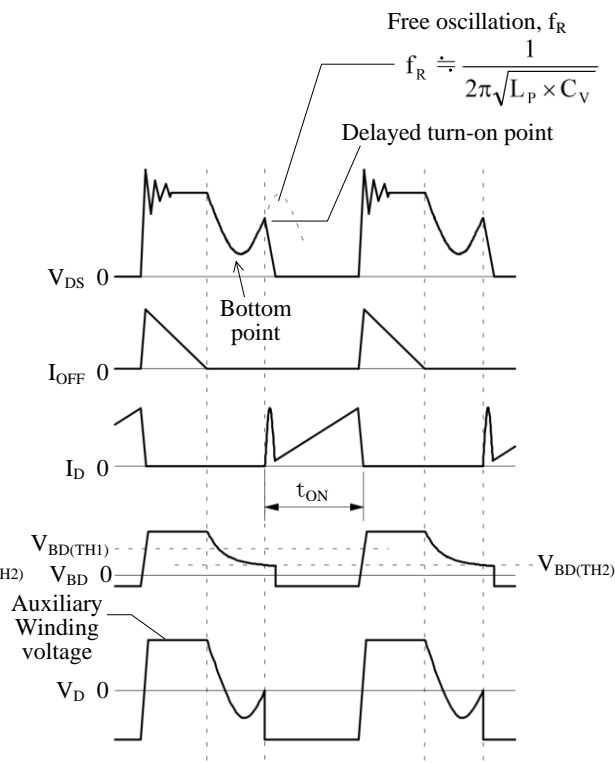

Figure 8-15. When the Turn-on of a V_{DS} Waveform Occurs after a Bottom Point
- In the converse situation, if the turn-on point lags behind the V_{DS} bottom point (see Figure 8-15), it causes higher switching losses also. After confirming the initial turn-on point, advance the turn-on point by decreasing the C_{BD} value gradually, so that the turn-on will match the bottom point of V_{DS} .